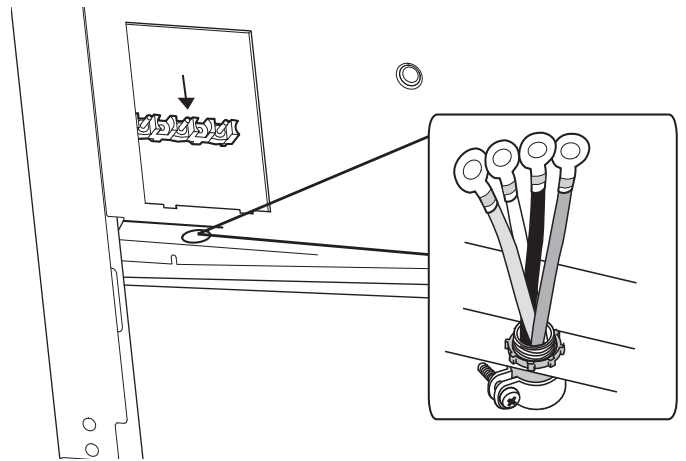

Figure 11: Strain Relief Location
Locate the terminal block on the rear of the unit and remove cover (refer to *Figure 11*). The conduit must be installed to the back panel using an approved conduit connector. The free end of the conduit must be connected to a junction box provided in the electrical supply zone, as shown in *Figure 3 on page 10*.
Mount a strain relief (not provided) into the 1" (25.4 mm) diameter hole located below the terminal block (see *Figure 11*). Wiring for the unit is to be brought into the terminal block through the conduit and through the strain relief. The ends of the wiring must have 1/4" (6 mm) faston closed-loop lugs attached, preferably soldered in place. Make the connections to the terminal block provided.
1. Locate the terminal block on the rear of the unit and remove cover (see *Figure 11*).